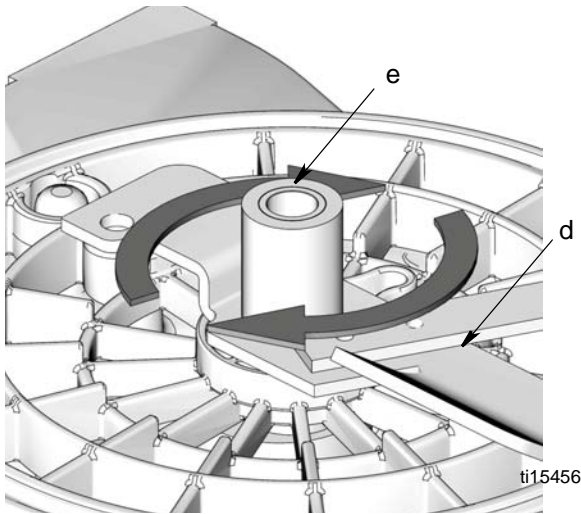

FIG. 4
5. Turn paddle (d) **clockwise** to loosen and remove it from G3 base (FIG. 4).